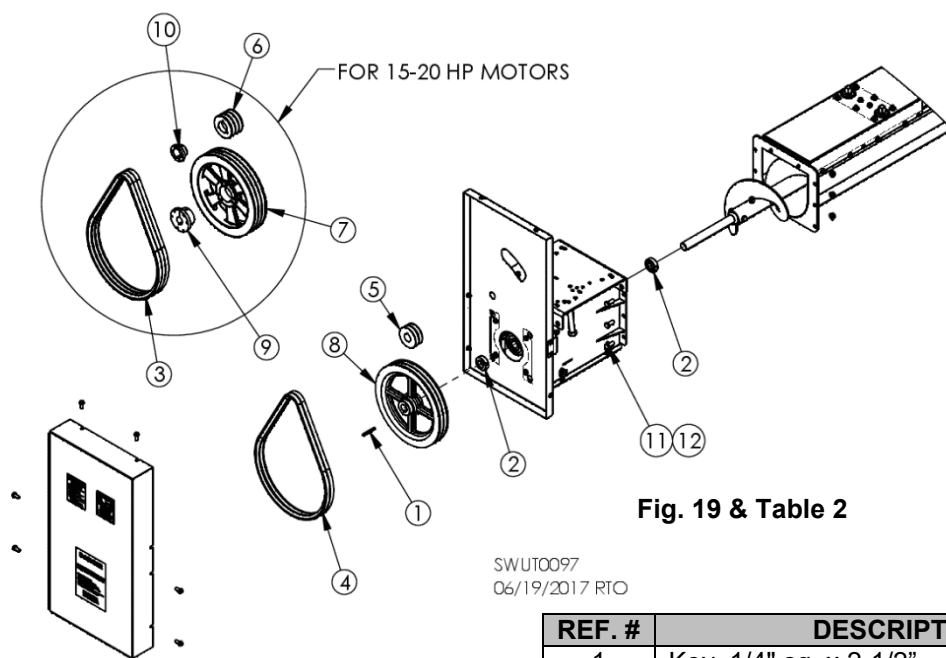

Fig. 19 & Table 2
2. Remove discharge cover and attach powerhead to unload trough using three 1/2 x 1-1/4" screws on each side flange. See Fig. 19 and Table 2.